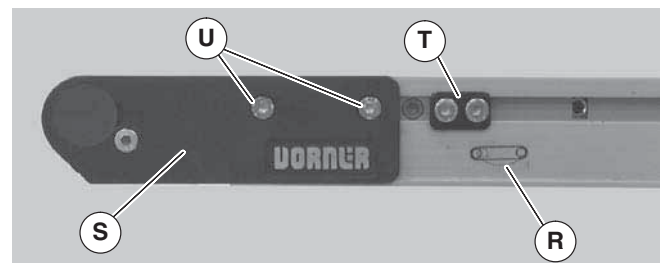

Figure 17
4. Remove tension door screws (AM) on each side of the drive module.
5. Using finger grip holes (AN), open the tension door (AO) to release conveyor belt tension.
6. On tension end of the conveyor, identified with a  label (Figure 17, item R), push in head plate assembly (S): On both sides of conveyor, loosen and move cam tracking assemblies (T) (if equipped) away from head plates, then loosen fastening screws (U) and push head plate assembly inward.